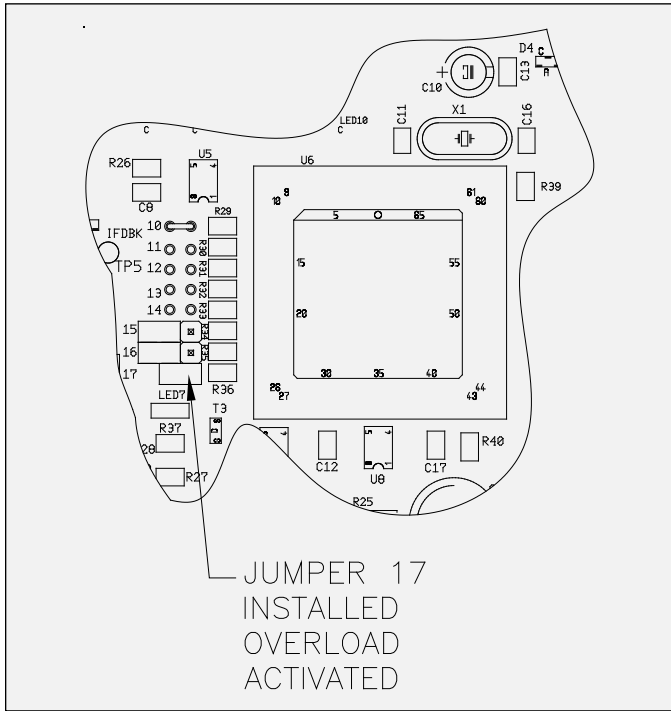

Figure 11: Jumper Location - Overload Activation
2. Place the jumper across the two (2) pins at location 17 on the main PC board (see Figure 11).